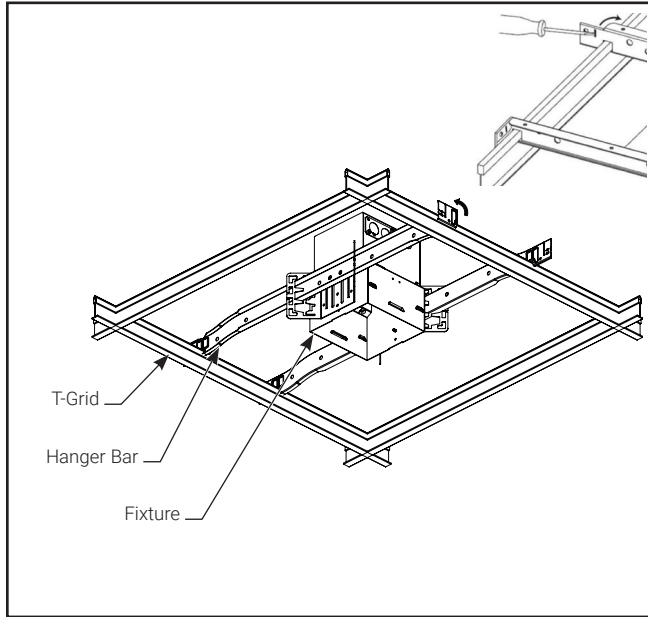

Figure 2.
- Install rough-in section to T-Grid or ceiling structure using “No Fuss” bar hangers attached to fixture. (Figure 2)
Secure bar hangers in place by bending the end sections to lock to grid. (Figure 2)